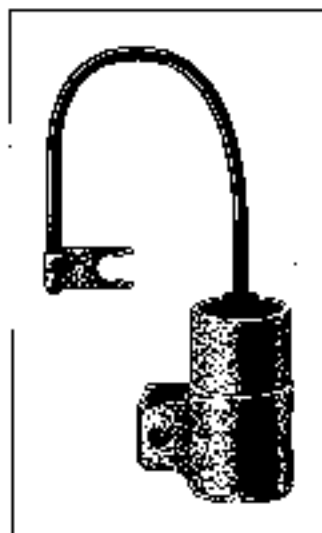

Figure 5-17:
- Ⓟ The condenser (shown in Figure 5-17) is an electrical “sponge” that keeps the points from burning up. This small metal cylinder prevents the electricity from arcing across the gap when the points are open, which would cause the points to burn. Condensers should be replaced periodically, along with the points and rotor. Chapter 12 shows you how to do so.